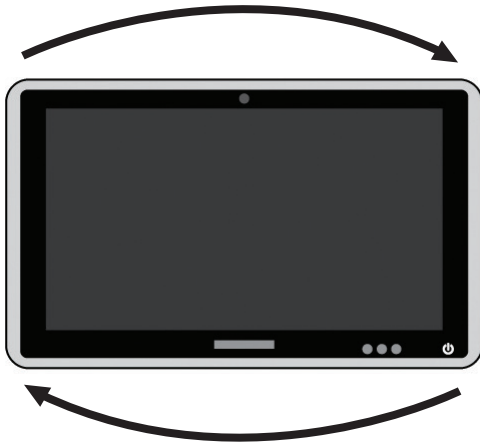

Figure 6: Rotational Tension Adjustment
1. To adjust the CW and CCW rotational tension, use a 13 mm wrench to adjust the hex nut on the back of the VESA Mount. See Figure 6.